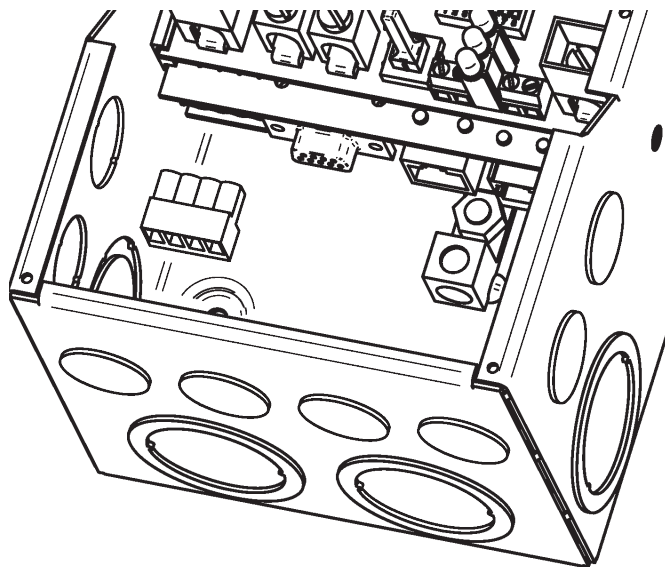

Figure 3-6. Removing the RS-485 socket connector
The four (4) position EIA-485 connector on the TriStar MPPT 150V must be removed to access the terminal screws. Remove the socket connector by firmly grasping the connector body and pulling away from the circuit board as shown in figure 3-6.